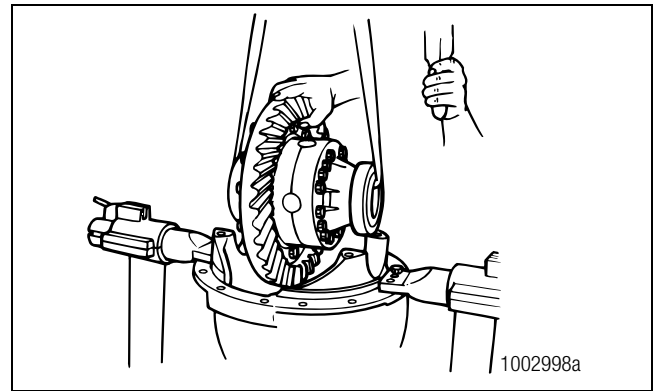

Figure 3.16
8. Safely lift the main differential and ring gear assembly from the carrier. Place the assembly on a workbench. Figure 3.16.